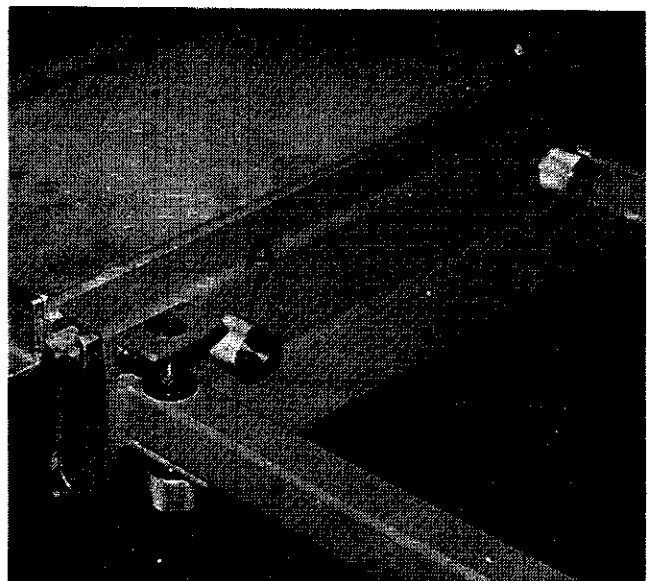

FIG. 5.
1. Support extension table and locate the 2 extension table mounting blocks in outer slot of aluminium sliding table as shown in FIG.5.
3. Position extension table flush with end of aluminium sliding table as shown in FIG.5. and carefully lock the 2 knurled handwheels "A".